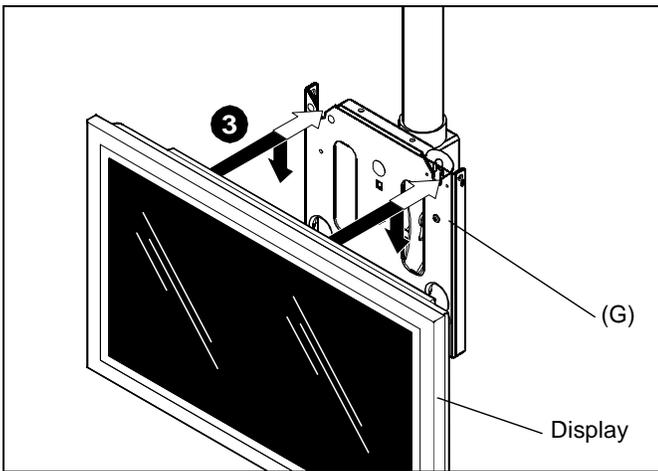

Figure 10
3. While supporting both sides of display, align four mounting buttons (M) on display or interface bracket with four mounting holes on faceplate (G). (See Figures 10, 11 and 12)
4. Lower display into place listening for audible "click" to ensure recessed area of mounting buttons (M) are properly seated in lower area of mounting holes. (See Figures 10, 11 and 12)